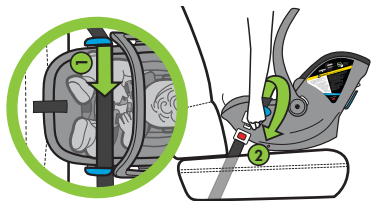

Figure 67
- Route the lap belt through both blue LATCH/Lap Belt Guides (1) and buckle vehicle belt (2), as shown in **Figure 67**.